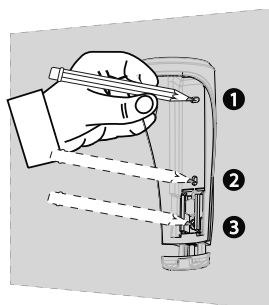

Figure 2 -
1. Mark and drill at least two holes in the mounting bracket (see figure 2 and 3).
Note: To install tamper protection on the detector, mark and drill one hole for the tamper protection (hole number 3, figure 2) and two holes in the other available slots (number 1 and 2, figure 2).